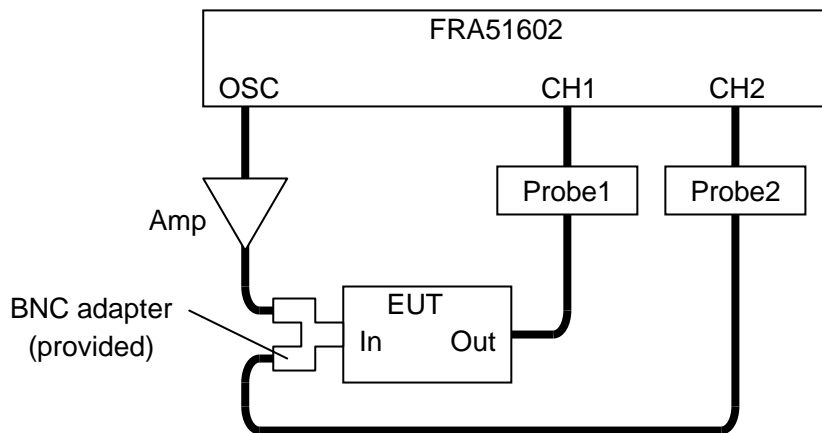

Figure 5-18 Example of connections for gain-phase measurement
The method of correcting for systematic error is explained with the connection example shown in Figure 5-18.
- 7) Restore the original connections as they were prior to removing the EUT in step 3 ("Figure 5-18 Example of connections for gain-phase measurement").